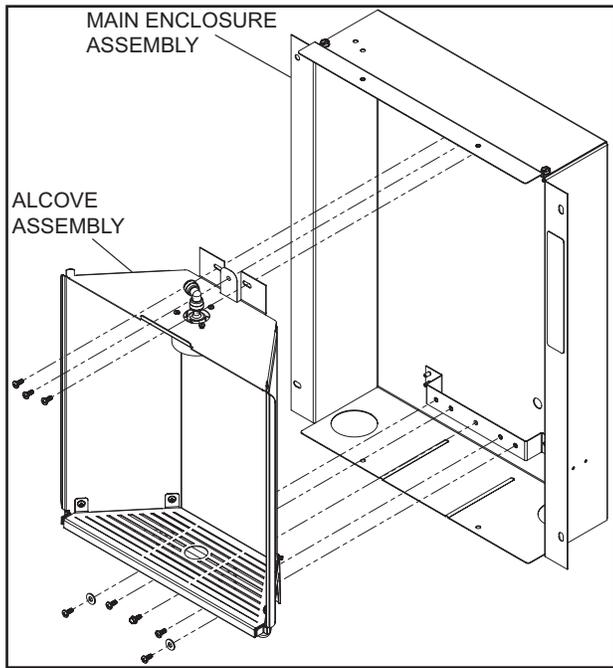

Figure 8
3. **(For LZLMSN-EDFPVM214DK)** Install the filter head to the bracket, then install filter bracket on mounting frame (Fig. 8), plumb from the filter outlet using the 1/4" elbow, poly tubing and 1/4 x 1/4 x 1/4" tee, install filter.
6. **Check** stream height from bubbler. Stream height is factory set for 35 PSI supply. If supply pressure varies greatly from this, remove push button (Item 5 - Fig. 8) and adjust the screw on the regulator (Item 4 - Fig. 8). To remove push button, loosen set screw (Item 7 - Fig. 8) on bottom of the sleeve (Item 6 - Fig. 8) and pull out on the button. Clockwise adjustment will raise stream height and counterclockwise movement will lower stream height. For best adjustment stream should hit basin approximately 6-1/2" from the bubbler. Reassemble the push button by pushing in on button and tighten the set screw (Item 7 - Fig. 8) in the sleeve (Item 6 - Fig. 8).